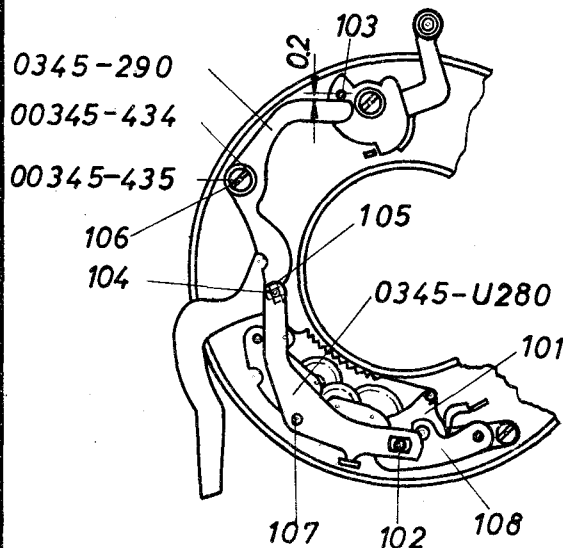
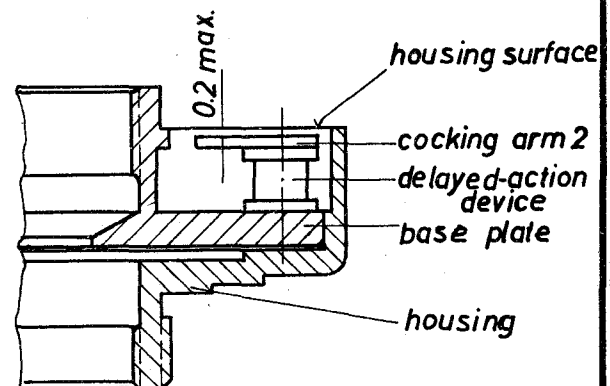

Fig. 12a
Fig. 13
(1) The PRONTOR-SVS shutter is cocked in the same manner as the other Gauthier shutters described earlier, i.e. either by means of the cocking lever projecting from the shutter casing or by means of the cocking shaft extending through a hole in the back of the casing.
(2) (a) Simultaneous cocking of the shutter mechanism and the delayed-action device is provided for by a system of levers (Figs. 12a and 12b) comprising a cocking arm 1 and a cocking arm 2. The cocking arm 2 is pivoted about a pin 102 carried by the segment wheel 101 of the delayed action device, whereas the cocking lever co-operates with the cocking arm 1 through a bevelled pin 103 which is riveted to the cocking lever.
During an initial period of the manufacture of PRONTOR-SVS shutters, the cocking arm 2 was placed freely movable on the side plate 108 (see Figs. 12a and 12b) and was held in position by the time setting ring. In some of these shutters, cumulative assembly tolerances were compensated for by the insertion of shims between the cocking arm 2 and the time setting ring. Some of these shims are made of thin spring steel strips, while others consist of plastic material.
Where shutters of this type have to be repaired, with the existing delayed-action device being retained, the above-mentioned shims will again have to be placed in position. When it is intended to install another delayed-action device, it is first necessary to measure the distance between the upper side of the cocking arm and the upper edge of the surrounding wall (see Fig 13). If this distance is found to be in excess of .2 mm (.008"), the shim should again be inserted.
<p>(b) Cocking arm washer 00345-434 has no tension so that pin 103 will only lift cocking arm 1 in an axial direction without rotating it.</p> <p>(c) End of cocking arm 1 is bent upward.</p> <p>(2) Only with shutters according to Figs. 12a and 12b: Slot 101 of cocking arm 2 is disengaged from pin 102 carried by segment wheel.</p>	<p>Insert proper cocking arm washer 00345-434.</p> <p>Straighten cocking arm 1 until it is plain.</p> <p>Measure distance indicated in Fig. 13 and, if necessary, insert a compensating shim.</p>